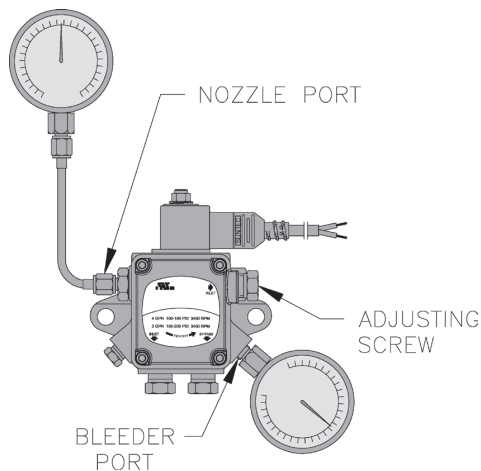

Figure 25: Adjusting Fuel Pump Pressure
Lift "H" (See Fig. 25)	Maximum Length of Tubing "H" + "R" (See Figure 27)
- a. When checking a fuel unit's operating pressure, a reliable pressure gauge may be installed in either the bleeder port or the nozzle port. Refer to Figure 25.